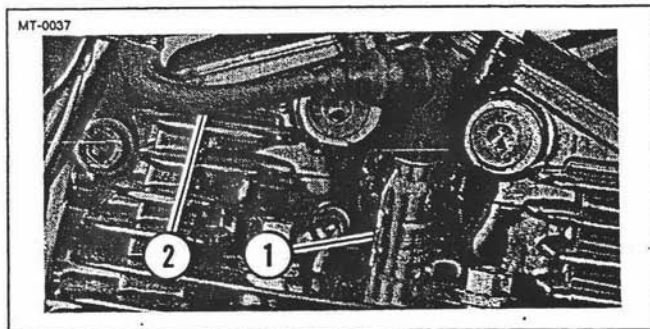

Figure 5-23. Spark Plug Cable and Protector
1. See Figure 5-23. Disconnect shielded protector (1) from spark plug.
7. See Figure 5-23. Install shielded protector (1) and cable to spark plug.